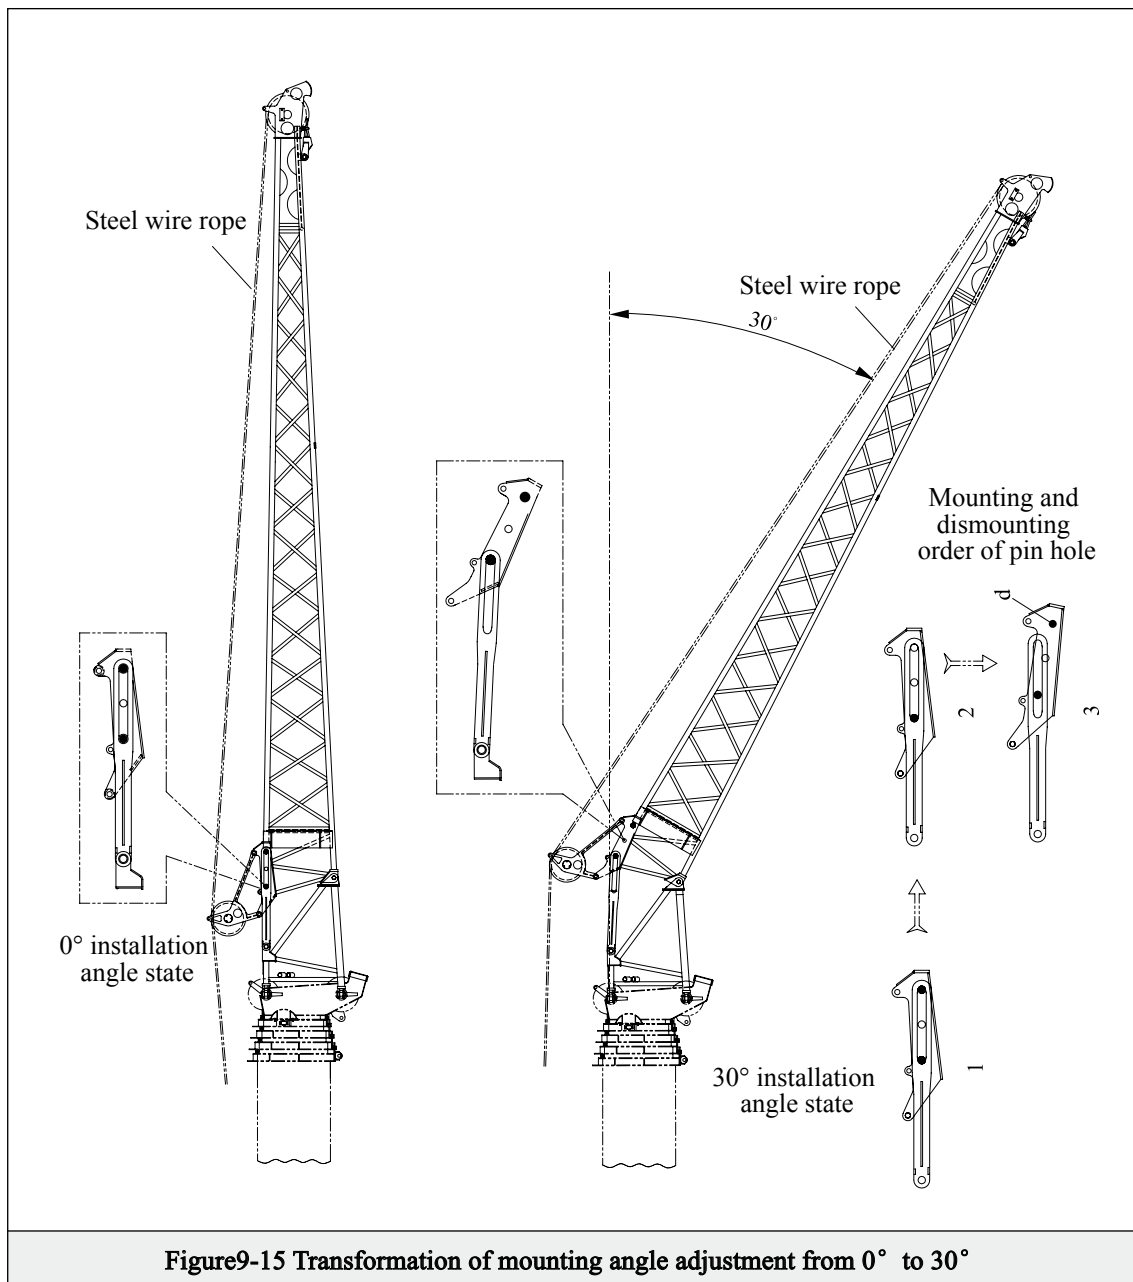

Figure9-15 Transformation of mounting angle adjustment from 0° to 30°
2. Transformation from 0° to 30° (as shown in figure9-15)